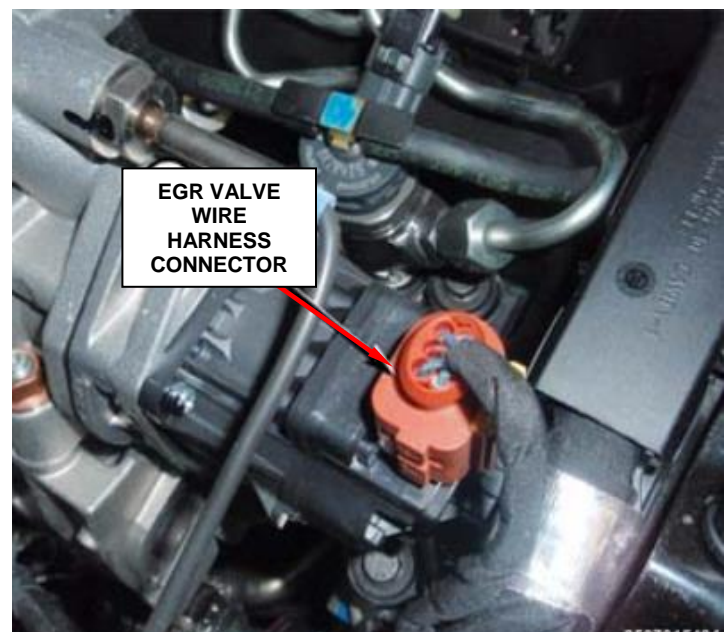

Figure 37 – EGR Connector
13. Disconnect the EGR valve wire harness connector (Figure 37).
26. Connect the EGR valve wire harness connector (Figure 37).